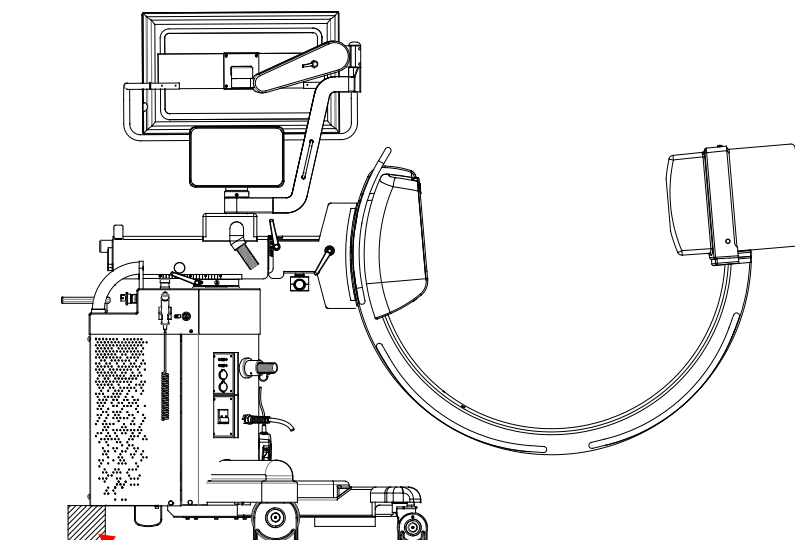

Fig. 4a
Warning: Before dismantling the X-ray monoblock, you must rotate the C-arm as shown in Fig.4a (with the FPD fully extended) and engage the brake (F) on the C-arm support, making sure that this stops the C-arm correctly.
You also need to place a wooden block under the stand (see Fig.4a) to prevent the equipment from toppling over when the X-ray monoblock is removed.